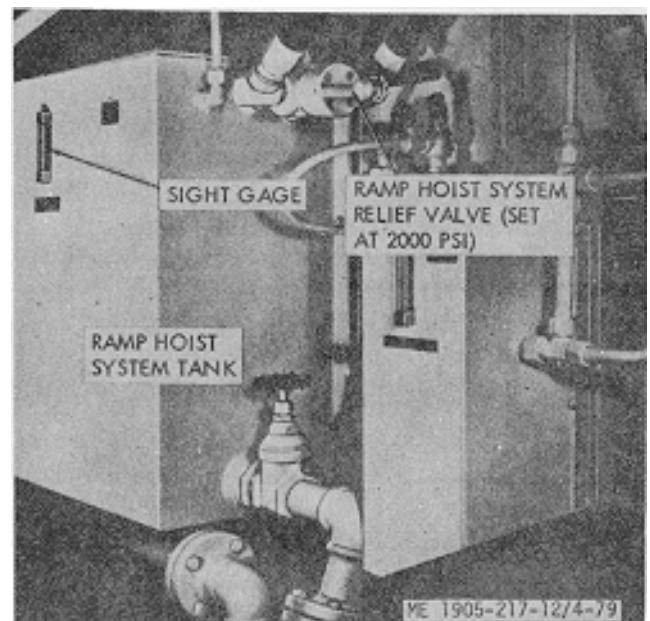

Figure 4-79. Ramp hoist system relief valve, hull numbers 8500 thru 8519.
b. *Adjustment.* See figure 4-79. If adjustment is required proceed as follows:
- (1) Install 3,000 psi pressure gage, with shutoff valve, in system at tee fitting or port in relief valve.
- (2) Wrap several turns of heavy manila rope around winch drum and belay running end to prevent operation of winch.